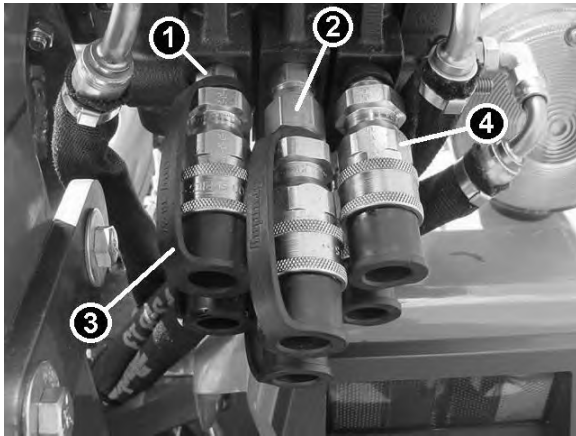

Figure 7.
- (A) Attach here for three section valve
- (B) Attach here for one or two section valve
4. Install Male SAE-6 O-Ring x 3/8 Male NPTF Adapter into both work ports of each valve section (Figure 7).
work ports using Teflon Tape (Figure 7).
6. Install 3/8 Dust Plug/Cap and 3/8 Female Quick Coupler at both work ports of each valve section using Teflon Tape (Figure 7).